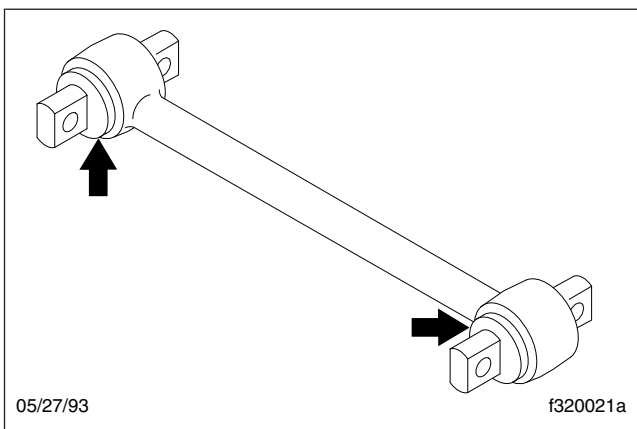

Fig. 1, Torque Arm Bushings
- Inspect the rubber bushing ends. See **Fig. 1**. Replace the torque arm for any of the following reasons: